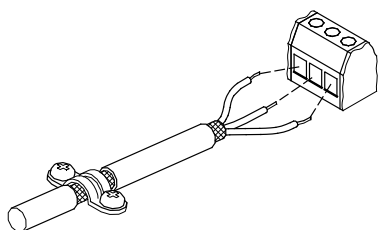

Fig. 16 Stripped cable with screen and wire connection
- Connect the screens of the cables to frame at both ends with good frame connection. The screens must be as close as possible to the terminals. See fig. 16.